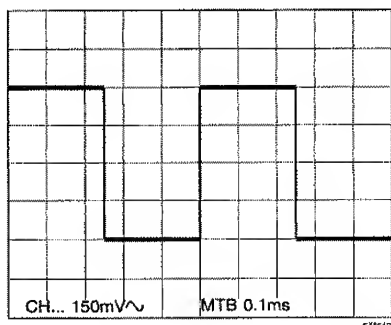

Figure 3.6
- Check for a display as indicated in Fig. 3.6..